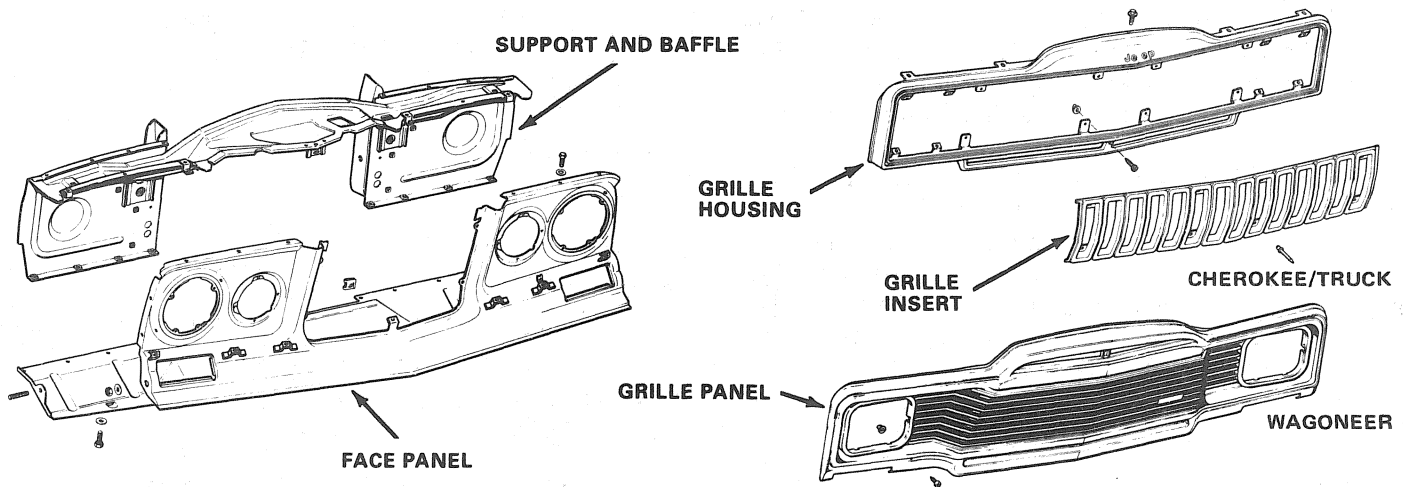

Fig. 3F-10 Grille Panels—Wagoneer-Cherokee-Truck Models
(1) Remove screws attaching grille panel (fig. 3F-10).
(2) Remove grille panel.